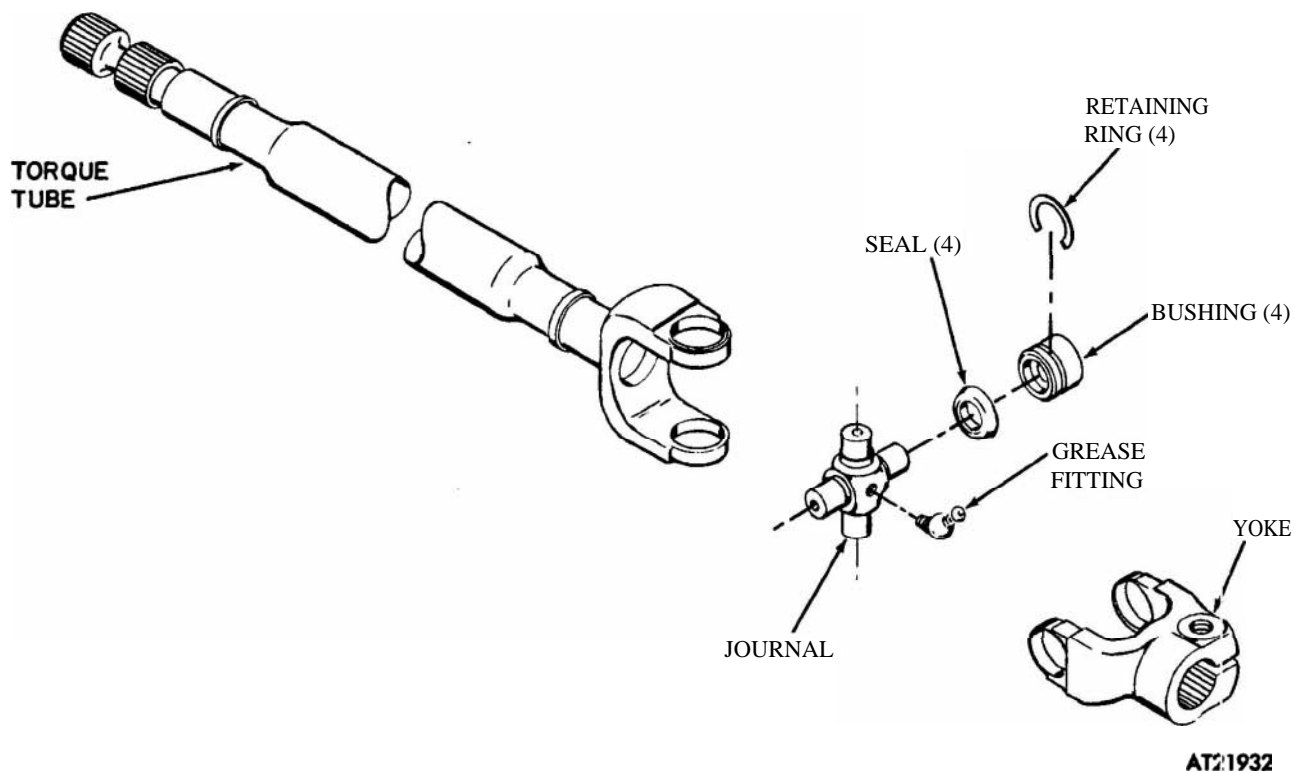

Figure 2-279. Tractor main and carrier torque tube, disassembly and assembly.
(1) Place universal yoke or joint in vise using a suitable tool (socket wrench) between bushing and one jaw of vise. Tighten vise to relieve retaining ring on inside of yoke boss. Remove ring (fig 2-279).
(2) Remove remaining retaining ring, refer to (1) above for procedure. Discard rings.
(3) Place yoke in vise. Press bushing from yoke, using a suitable tool.
(4) Remove remaining bushings refer to (3) above for procedure. Discard bushings.
- (1) Position cross of universal journal assembly to yoke. Place two bushing in mating yoke holes. Position one bearing surface of cross onto mating bushing (fig 2-279).
- (2) Place yoke in vise. Position cross in line with mating bushings. Close vise until exposed faces of bushings are flush with outer edge of yoke bosses.
- (3) Open vise and place a suitable tool between vise jaw and bushing. Close vise until retaining ring can be inserted into groove inside yoke boss. Install two retaining rings.
- (4) Install remaining two bushing, refer to (1) **above** and (2) for procedure.
- (5) Install two retaining rings, refer to (3) above for procedure.
(1) Clean all parts in an approved cleaning solvent and dry thoroughly.
(2) Inspect all parts for cracks, dents, burrs or other damage. Inspect bearing for freedom of movement. Binding or loose bearing is cause for replacement. Replace grease fitting if damaged.
(3) Repair assemblies using repair kit (refer to TM 9-2320-242-20P).
d. Assembly. Assemble universal yoke and journal assemblies (refer to **para** 2-1844. (1) and fig 2-279).